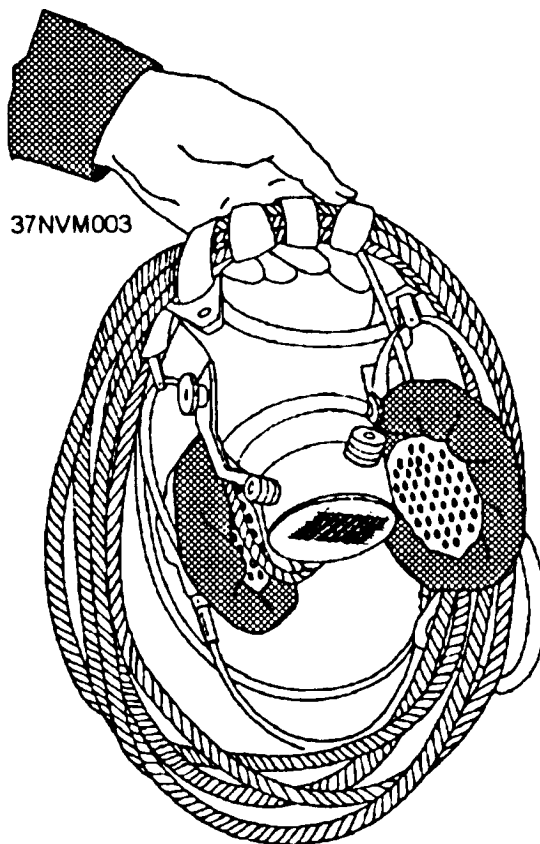

Figure 3-3.-A properly made-up sound-powered telephone headset-chestset.
9. Bring the top of the chest plate level with the headband and cable. Secure the chest plate in this position by winding the neck strap around the headband and coiled cable just enough times that a short end will be left over. Twist this end once and refasten it to the chest plate. The set is now made up and ready for stowing. Figure 3-3 shows a properly made up sound-powered telephone headset-chestset.